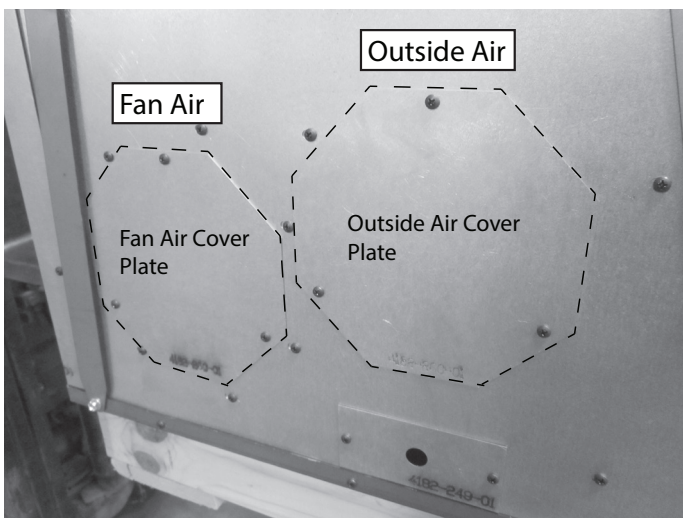

Figure 3.6
- The thermostat wire will be installed on the opposite side of where the electric comes in at. See Figure 3.6.